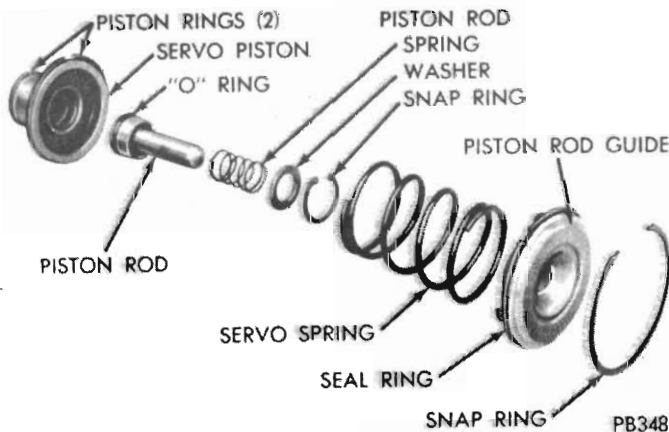

Fig. 95 - Kickdown servo (controlled load)
(1) If equipped with controlled load servo piston, sub-assemble it as follows (*Fig. 95*):
(2) Carefully push servo piston into the case bore. Install piston rod, springs and guide.
(3) Compress kickdown servo springs by using engine valve spring compressor Tool E0092, then install snap ring.